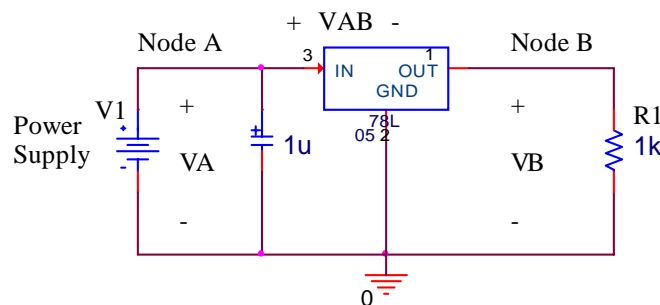
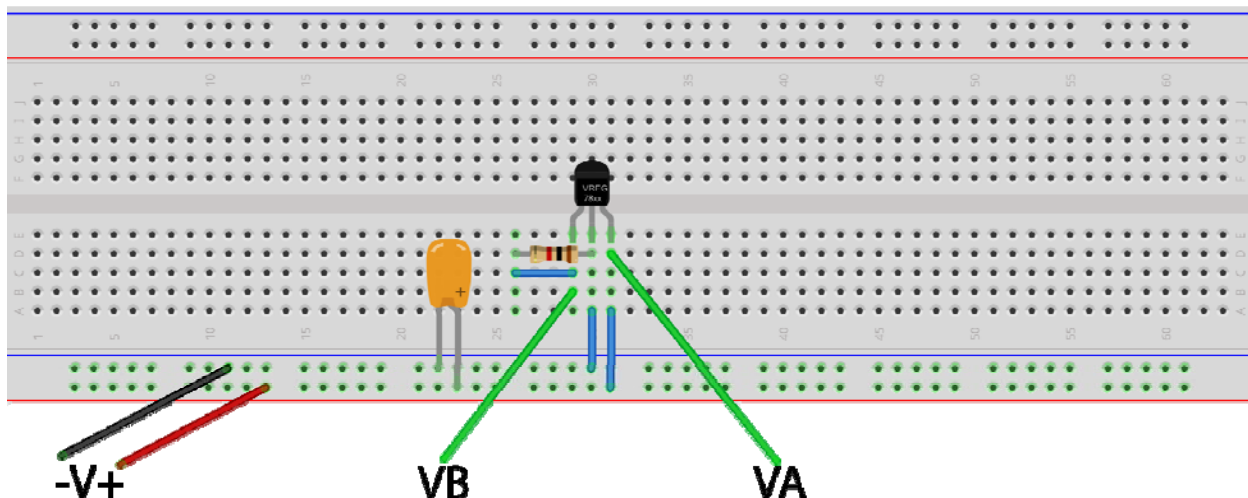

Figure 7: Voltage Regulator
Figure 11. One possible layout for the voltage regulator prototype.
Build the following schematic (see Figure 7) on your schematic page. You can select parts by clicking on the *Place Part* icon to the right.
1. Connect the circuit shown in Figure 7B. One possible layout is shown in **Figure 11**. See the datasheet for the 78L05 to determine which pins corresponds to the input, output, and gnd connections. Make sure that you use the 78L05! You also have a transistor that looks similar. Measure the node voltages  $V_A$  and  $V_B$  (i.e., the voltage from nodes to ground) and the differential voltage  $V_{AB}$  while adjusting the power supply voltage from 0 V to 9 V. Be sure to take enough measurements to show all relevant changes in output voltage versus input voltage. Measure the current,  $I$ , through the 1 k $\Omega$  resistor. Determine the input voltage for which the voltage regulator just turns on (i.e. output voltage becomes greater than zero) and the input voltage for which the voltage regulator falls out of regulation (i.e. output voltage becomes less than 5 V). Record all these values in a table similar to that shown in **Table 1**.